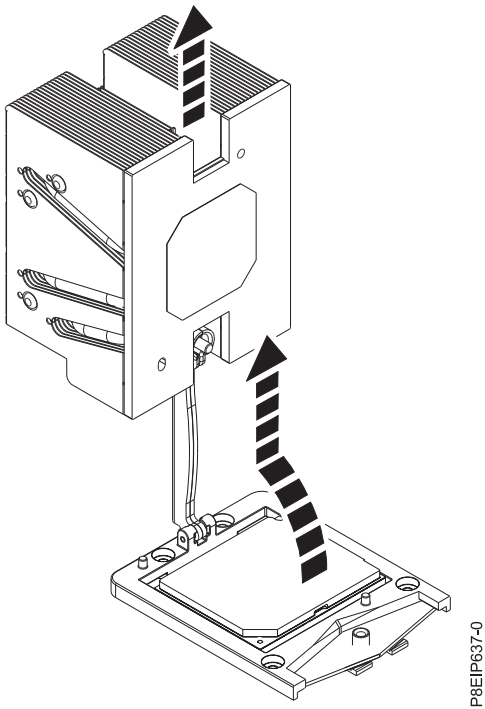

Figure 78. Lifting the heat sink from the load arm
- Pivot and lift up on the heat sink. The load arm pivots up; pivot the heat sink and lift it from the load arm. See Figure 78.